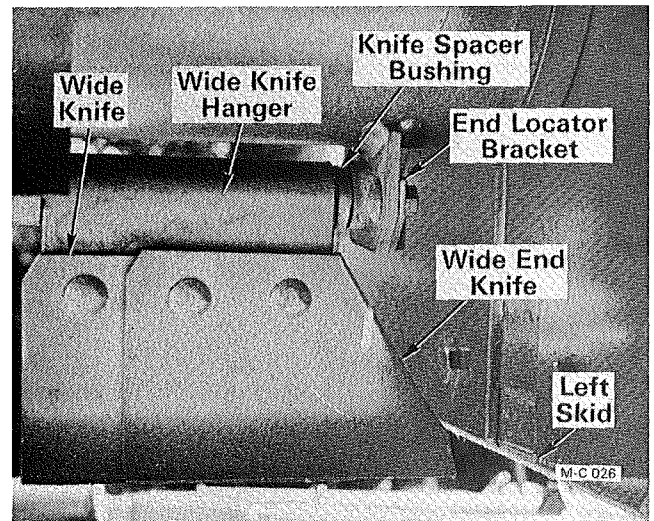

Figure 28
- B. Turn the rotor and line up the hanger bar in the center of the slot in the left side of the body, see Figure 28. Block the rotor in this position.
- C. Turn the rotor and line up the hanger bar in the center of the slot in the left and right side of the body, see Figure 28. Block the rotor in this position.
- B. Turn the rotor and line up the hanger bar in the center of the slot in the side of the body, see Figure 28. Block the rotor in this position.
- B. Remove the inner end locator bracket, see Figure 28. Turn the rotor and line up the hanger bar in the  $1\frac{1}{4}$  inch hole in the front of the Shredder center plate. Block the rotor in this position.
- B. The end knives must be opposite each other at each end of the rotor. The wide end of the knife faces the outside, see Figure 28.
- C. A knife spacer bushing goes between each end locator bracket and wide knife hanger, see Figure 28.